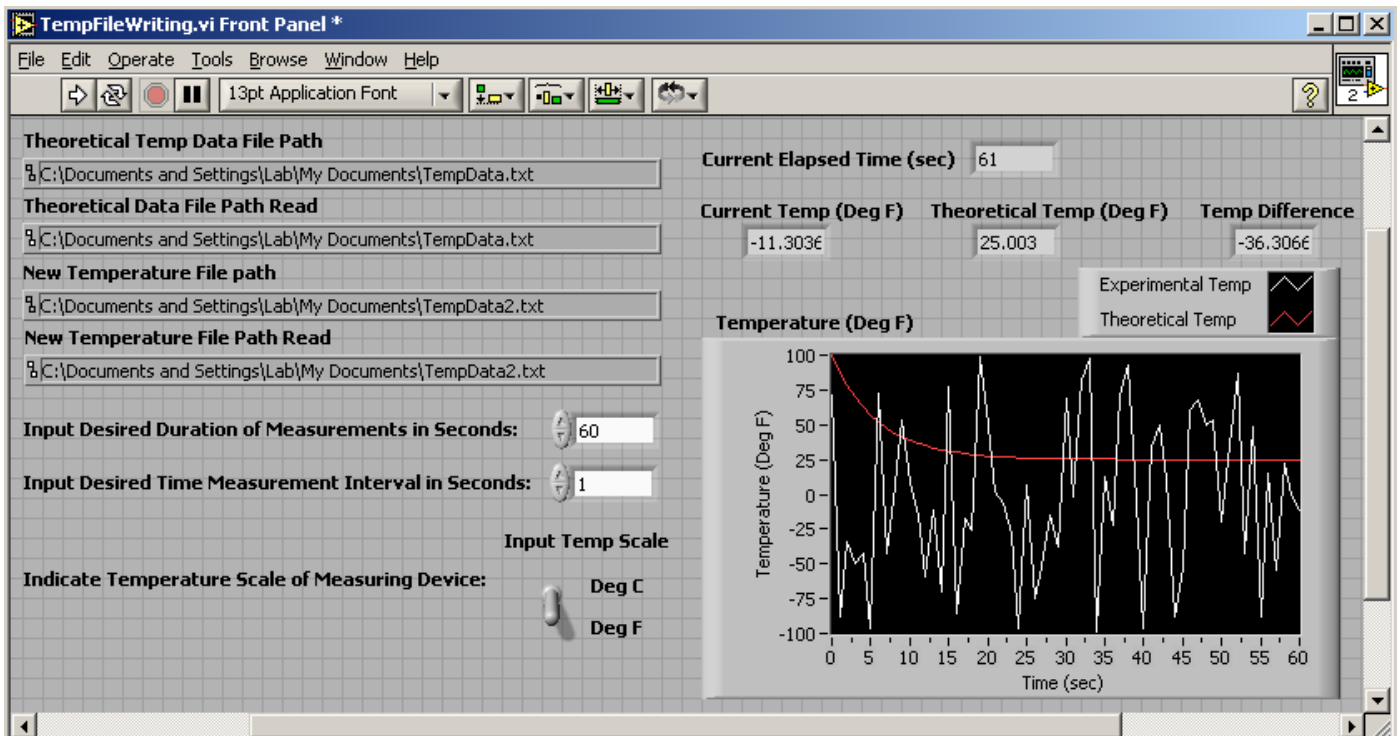

Figure 6.1: Front Panel Configuration for Modified Temperature VI
5. Arrange the **Front Panel** in some logical orientation. Refer to **Figure 6.1** for some guidance, if necessary.